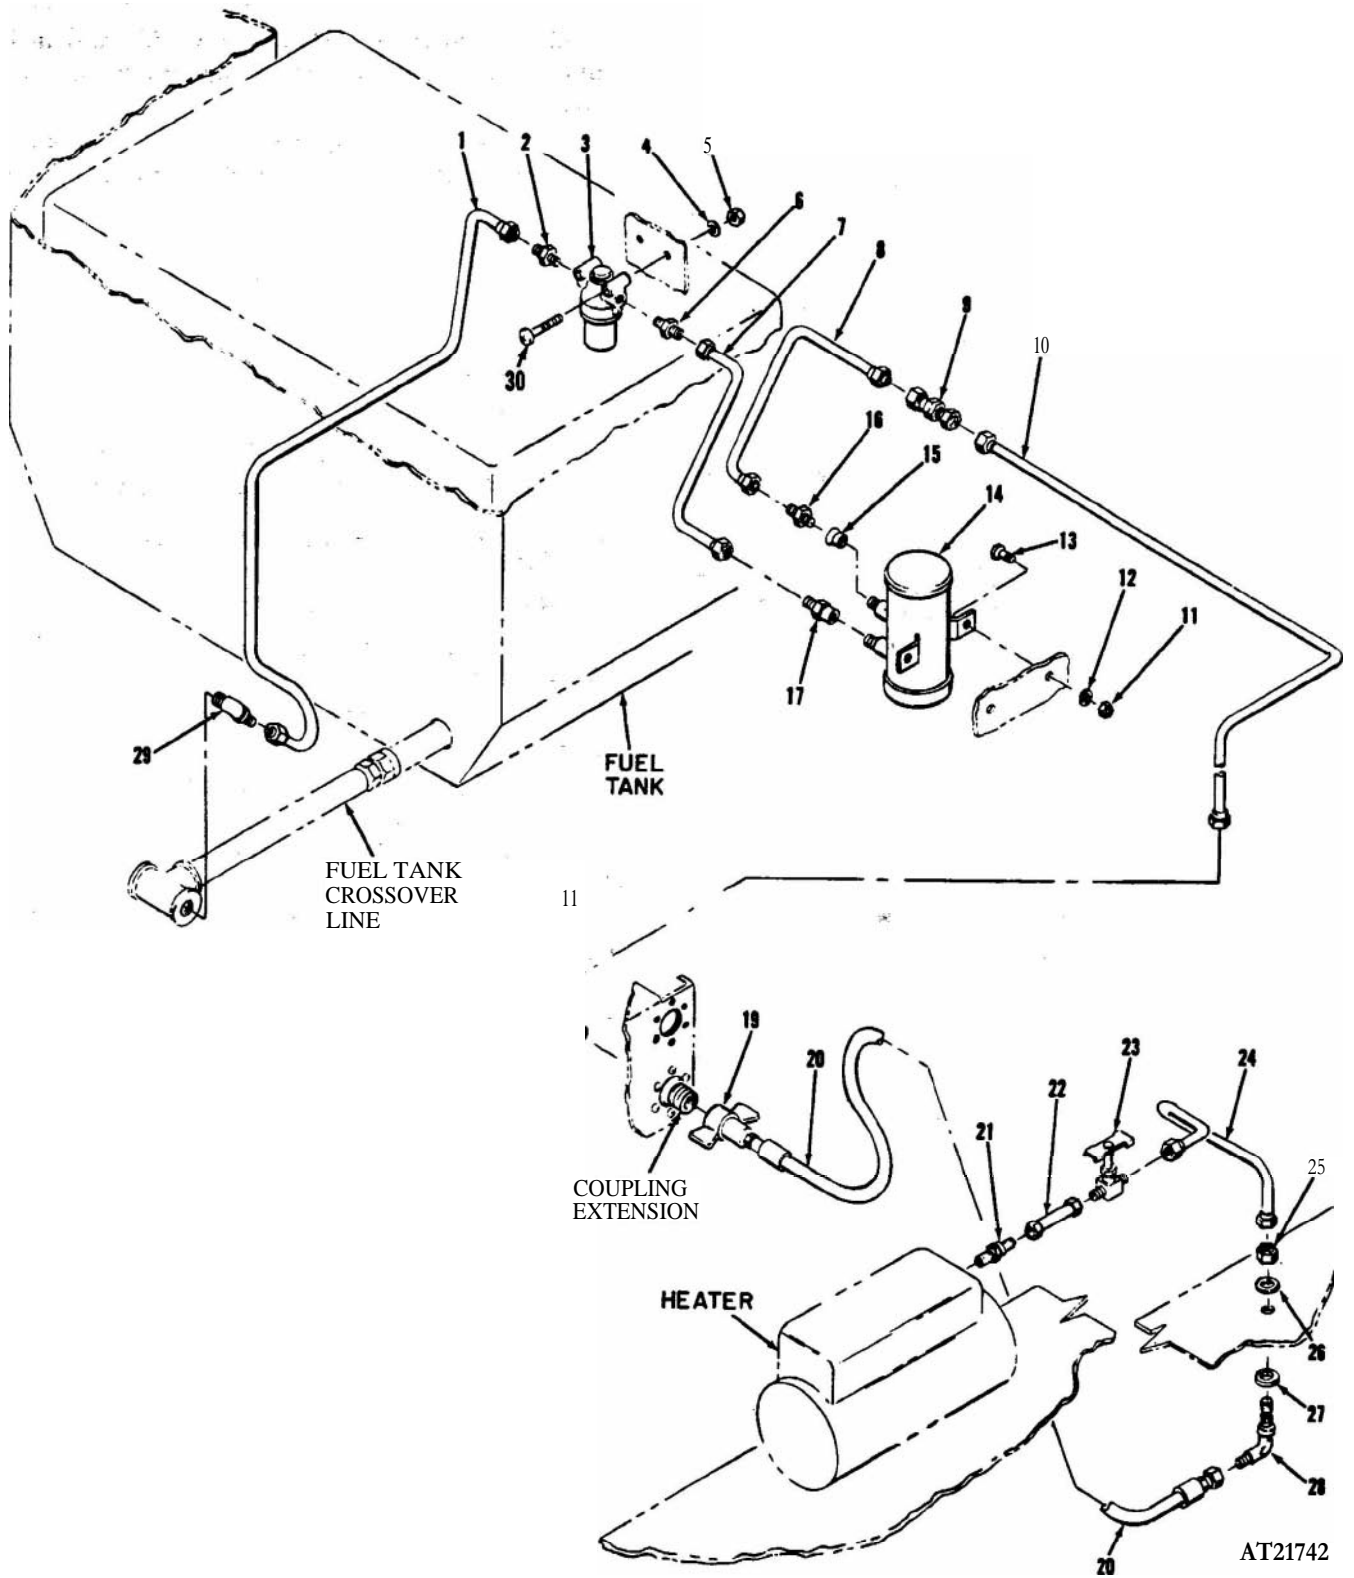

Figure 2-90. M792 ambulance carrier heater fuel lines and fittings.
(2) Remove tube assembly (1, fig 2-90) from adapter (2) and tee on fuel tank crossover line by loosening nuts on tube (1). Unscrew elbow (29) from tee on crossover line.
LEGEND for figure 2-90:
(1) Attach adapter (21, fig 2-90) and tube (22) to heater assembly. Attach shut-off valve (23) to heater tube (22).
(2) Install elbow (28) to carrier floor and